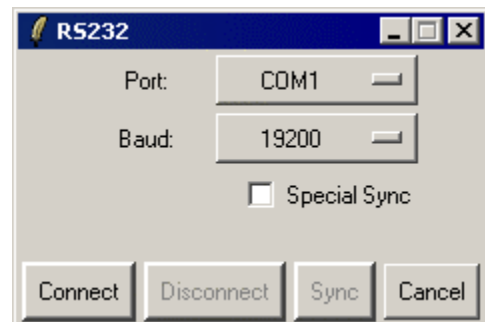

Figure 11 — RS232 Options
- Open the **Settings > Communications** menu option and choose RS232. The RS232 options depicted in **Figure 11** will appear.